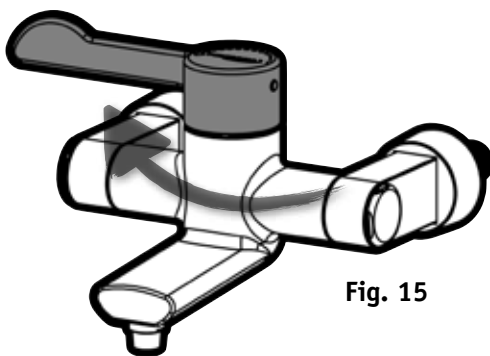

Fig. 15
9) Replace the HANDLE 1, turn the water OFF (Fig. 15)